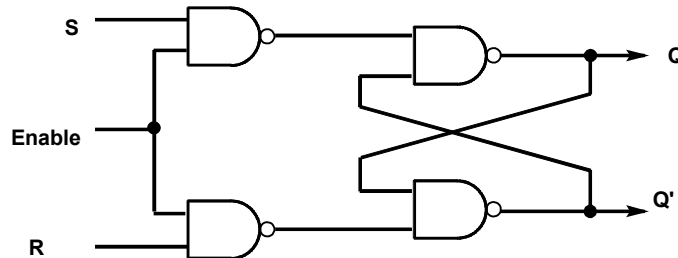

Figure 3
1. Connect the circuit of Figure 3. Use DS-1 for S, DS-2 for R, DS-3 for Enable, DI-1 for Q and DI-2 for Q'.